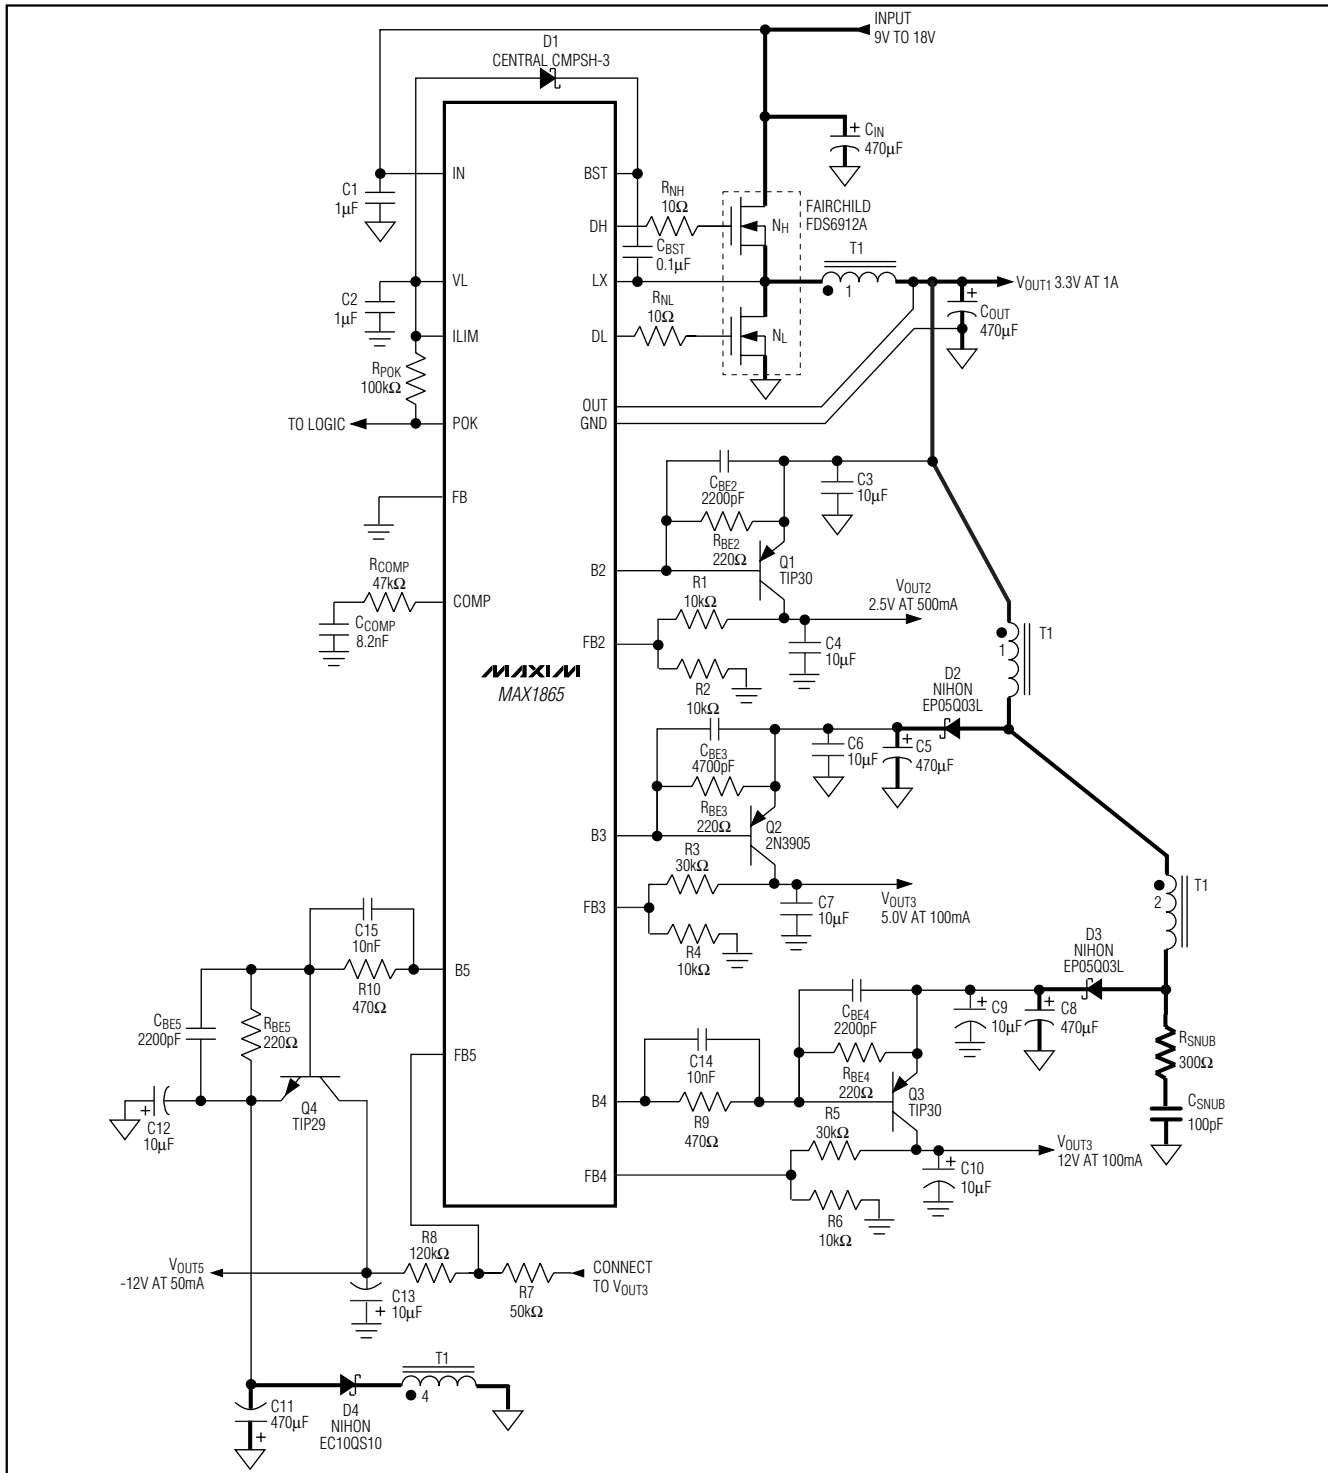

Figure 6. Standard MAX1865 Application Circuit
The MAX1864/MAX1865's positive linear regulator output voltages are set by connecting a voltage-divider from the output to FB_- to GND (Figure 6). Select R_4 in the 5k Ω to 50k Ω range. Calculate R_3 with the following equation:
The MAX1865's negative output voltage is set by connecting a voltage-divider from the output to FB_5 to a positive voltage reference (Figure 6). Select R_6 in the 5k Ω to 50k Ω range. Calculate R_5 with the following equation:
In systems where the step-down controller's output is not the highest voltage, a transformer may be used to provide additional postregulated, high-voltage outputs. The transformer generates unregulated, high-voltage supplies that power the positive and negative linear regulators. These unregulated supply voltages must be high enough to keep the pass transistors from saturating. For positive output voltages, connect the transformer as shown in figure 6 where the minimum turns ratio (N) is determined by:
only), connect the transformer as shown in Figure 6, where the minimum turns ratio is determined by:
The MAX1864/MAX1865 use a current-mode control scheme that senses the current across the high-side MOSFET (NH). Immediately after the high-side MOSFET has turned on, the MAX1864/MAX1865 use a 60ns current-sense blanking period to minimize noise sensitivity. When the MOSFET turns on, however, the transformer's secondary inductance and the diode's parasitic capacitance form a resonant circuit that causes ringing. Reflected back through the transformer to the primary side, these oscillations across the high-side MOSFET may last longer than the blanking period. A series RC snubber circuit at the diode (Figure 6) increases the damping factor, allowing the ringing to settle quickly. Applications with multiple transformer windings require only one snubber circuit on the highest output voltage. Applications with low turn ratios (1:1), such as the MAX1864 typical application circuit (Figure 1), may not require a snubber circuit.
For the EC10QS10 Nihon diode used in figure 6, the capacitance is roughly 15pF. The output snubber must only dampen the ringing, so the initial turn-on spike that occurs during the blanking period remains preset. A 100pF capacitor works well in most applications; larger capacitance values require more charge, thereby increasing the power dissipation.
The snubber's time constant (t_{SNUB}) must be smaller than the 100ns blanking time. A typical RC time constant of approximately 30ns was chosen for Figure 6: